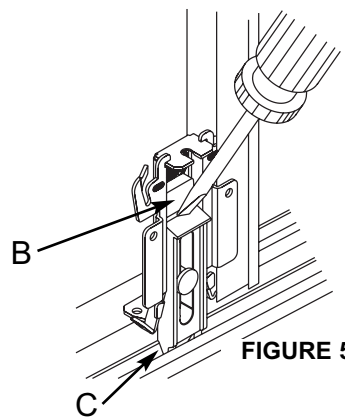

FIGURE 5
After obtaining approximately 1/2" clearance at floor, press nylon button guide down with thumb at (B) until hooks (C) snap into floor track. Guide will ride up and down in channel to compensate for uneven floor level, without disengaging door. Guide can be removed by prying up under nylon flange (Figure 5).